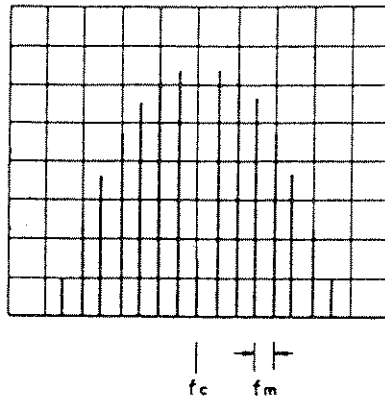

Fig. 6-5 FM Wave Spectrum Display Example
(4) FM wave measurement
When displayed as shown in Fig. 6-5 by the display expansion measurement procedure of item (1), the carrier frequency f_c , modulation frequency f_m , and the level of each sideband spectrum can be measured.